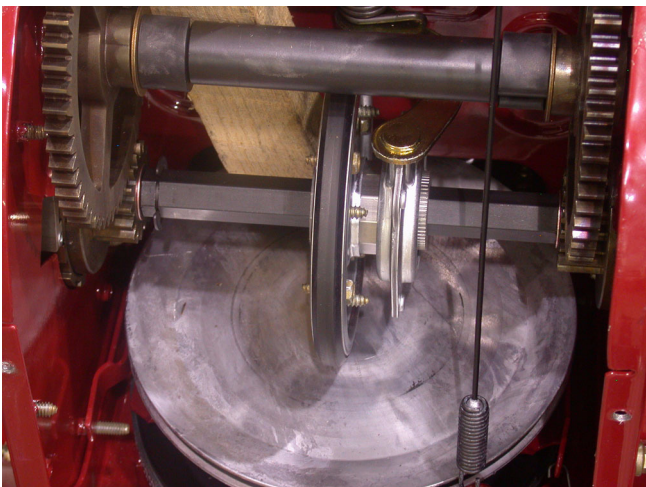

Figure 7.6
- 7.6. Place a block on the left side of the drive wheel to hold the shifter arm stationary. See Figure 7.6.